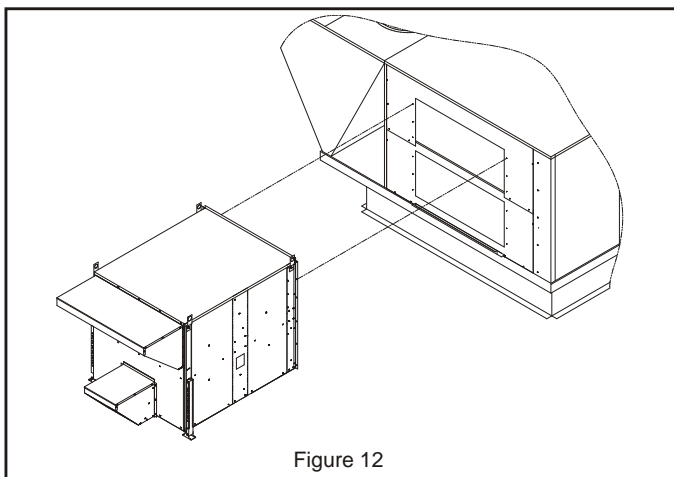

Figure 12
- Lift and move ERS unit into position in front of horizontal exhaust air opening. **See Figure 12.**